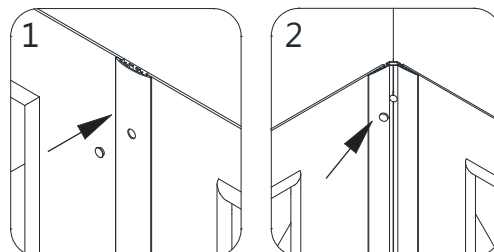

Fig 23
23. Use the **Decorative Covers (#08)** to cover the screw holes in the **Corner Covers (#04)** and the **Center Cover (#05)**. **(Fig 23)**